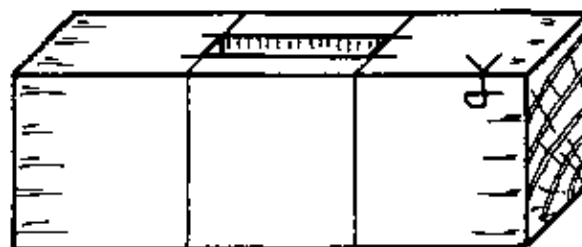

Fig. 8
– When most of the waste is out, chisel out the remainder to the line (Fig. 8).